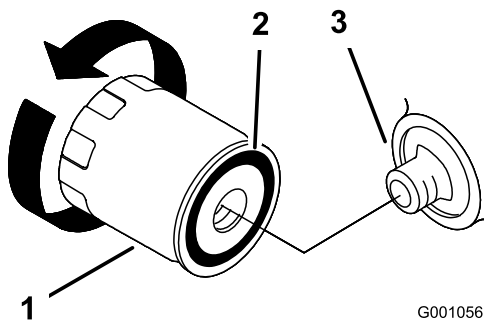

Figure 38
3. Apply a thin coat of new oil to the rubber gasket on the replacement filter (Figure 38).
4. Install the replacement oil filter to the filter adapter. Turn the oil filter clockwise until the rubber gasket contacts the filter adapter, then tighten the filter an additional 1/2 turn (Figure 38).